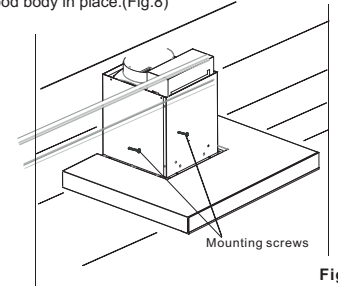

Fig.8
- Install two additional hood body mounting screws into the auxiliary mounting holes to secure the hood body in place (Fig.8)